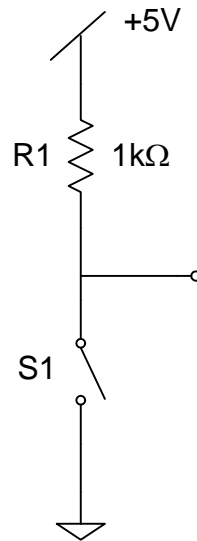
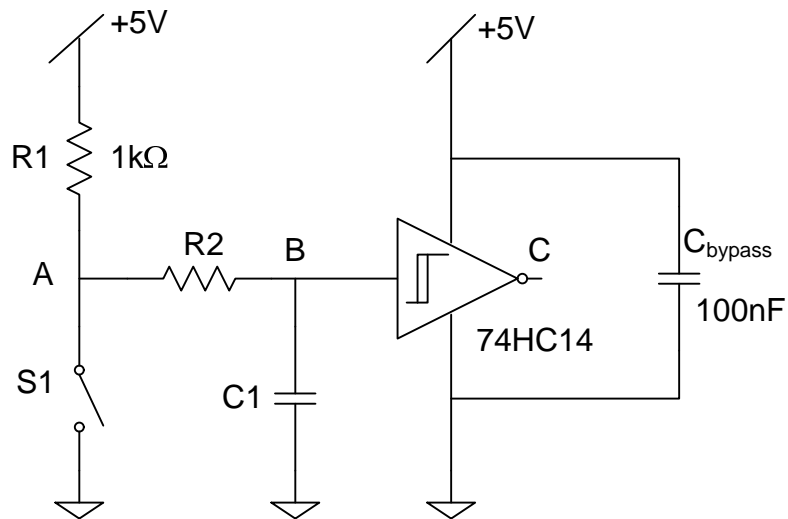

Fig. 1. Mechanical switch circuit.
Fig. 2. Switch debouncer using a Schmitt trigger.
- The Spice file *BounceSwitch.cir* contains a simulation of the switch circuit of Fig. 1 for the case of a bouncing switch. Perform a simulation of the switch debouncer circuit of Fig. 2 in Spice. Use as a starting point the *BounceSwitch.cir* file on the web page. Your debouncer circuit should be connected to node 1 of the provided circuit. Select  $R2 = 1k\Omega$  and find the smallest capacitance value for C1 that eliminates the bounce. Use the 7414 subcircuit contained in the *eval.lib* library. Put in your lab notebook a plot of the voltages at points A, B and C for  $C1=0$  and for the smallest value that eliminates the bounce. Now put a capacitor value 100 times bigger and run a simulation. What is the effect on the output of the Schmitt trigger? Include a plot for this case as well.
Build the simple switch circuit shown in Fig. 1. Acquire the switch closing (turn on, high-to-low) and switch opening (turn off, low-to-high) transitions with the scope in single shot mode. For which transition do you expect to see bouncing? Do this at a 10ms/div time scale. Zoom in on the saved waveform to look for bounces. Do you see any? Change the time scale to 40μs/div and repeat. Probably you were not able to see the bounces at 10ms/div. Explain why. Include the plots in your report.
Build the switch debouncer shown in Fig. 2. Include in your report plots of the turn on and turn off transitions at points A, B and C.
Connect a second Schmitt trigger at point C of Fig. 2. Measure the propagation delay. Produce a scope picture showing the waveform at point C and at the output of the Schmitt trigger that you added. Use cursors to measure the propagation delay.